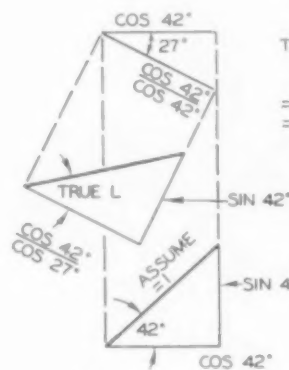
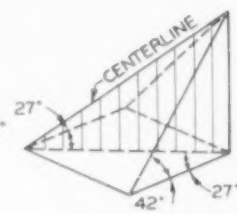

Figure 3
Figure 4
up about another angle (not 42 deg), the piece will be in position for drilling. The graphical solution for the second angle is shown in Fig. 3 (orthographic) and Fig. 4 (pictorial) and is found to be 38 deg-44 min-21 sec in the trigonometric calculation. This is the true angle between the centerline and the base of the bracket.
1. The true horizontal tilt angle was computed from the given angles of 27 deg and 42 deg (Fig 3 or 4).